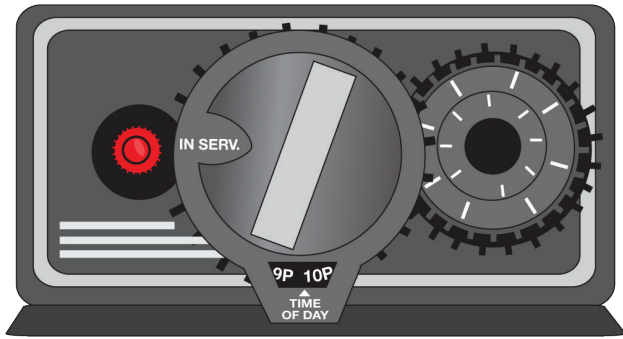

Figure 9 - Filter **IN SERVICE** position
7. After the manual rinse cycle has been completed, turn the main dial on the filter unit to the **IN SERVICE** position **[See Page 15, Figure 9]**. Make sure the control lever is fully in the **IN SERVICE** position. Now, put the ScaleSolver outlet in the **IN SERVICE** position. Water will now be flowing through the whole Premier PowerPac to feed the house. **Remember to set the timer for self-cleaning to the current time of day.**